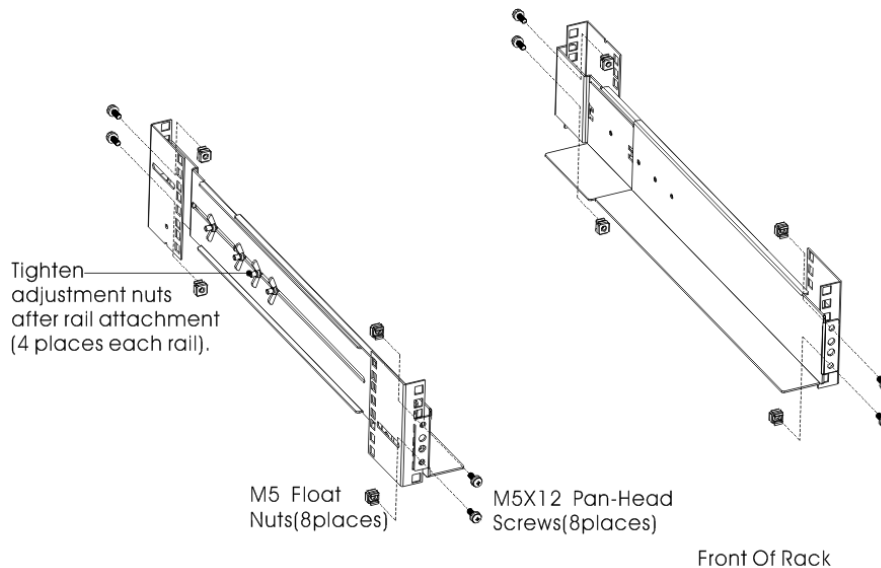

FIG.4 Fixing the Rails
2. Select the proper size in the rack for positioning the UPS (see FIG. 4). The rail occupies four positions on the front and rear of the rack.